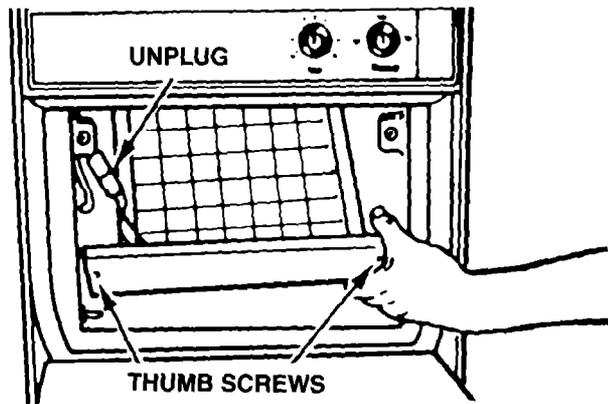

FIGURE 4
2. Remove cutter grid (two thumb screws), Figure 4. The grid slides off of two mounting tabs near the water pan.